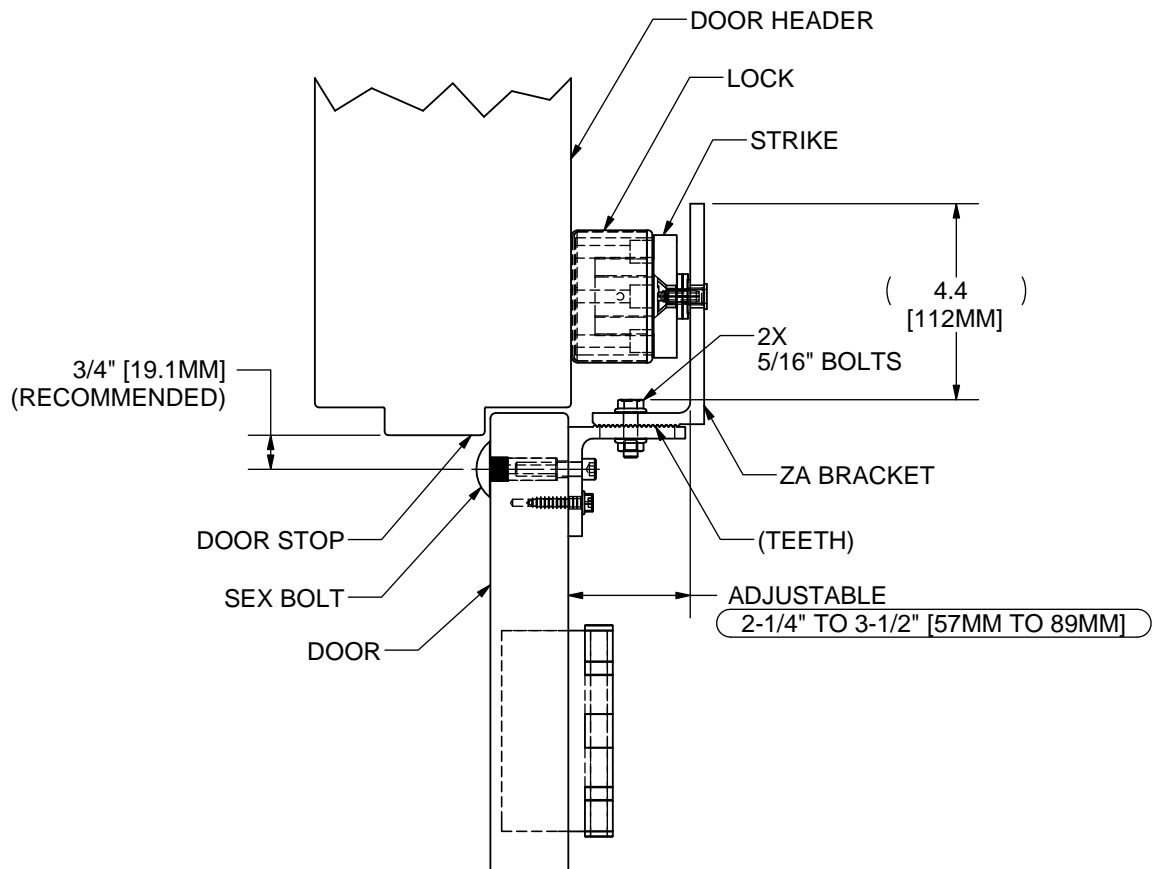
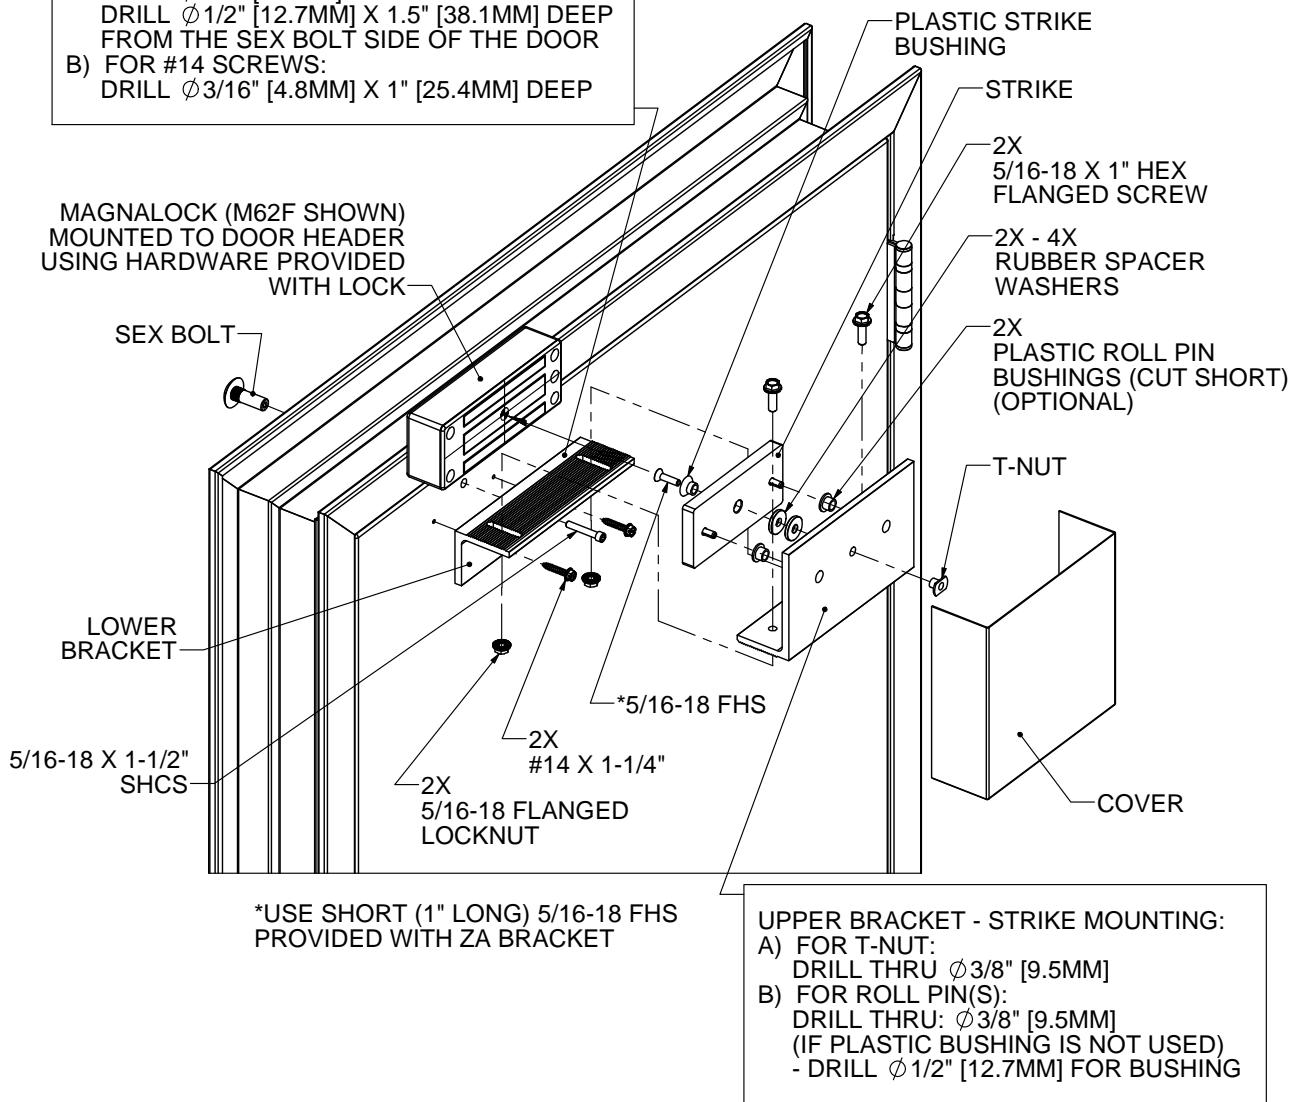

Figure 1
Figure 2
- a. Using the hardware, product installation manual and template provided with the lock, mount the lock to the header at a structurally sound location above the door as shown in Figures 1 and 2.
- b. Loosen the two (2) ZA bracket assembly bolts enough to disengage the teeth and allow the depth adjustment of the bracket.
- f. After the depth of the bracket has been properly adjusted, tighten the screws of the ZA bracket to secure, then mark and drill the three (3) mounting holes in the door as shown in Figure 2.
- h. As necessary, loosen the two (2) ZA bracket assembly bolts and readjust the upper bracket toward or away from the door to gain optimum contact between the strike and the face of the lock when the door is closed.
- a. Position the assembled ZA bracket on the door so that the lower bracket mounting hole surface rests fully on the door face. Referring to Figure 1, select a position that takes into account how the lock will be positioned above the door.
- b. Using the lower bracket as a template mark and drill the three (3) mounting holes as indicated in Figure 2.
- g. Install the strike to the upper bracket as instructed in Section 3 and shown in Figures 1 and 2.
- a. After determining the strike center hole location, use the template showing the strike (furnished with the lock) and Figure 2, mark and drill the holes in the upper bracket.
- c. Ensure that at least one (1) roll pin is pressed into the back of the strike plate.
- d. Using the hardware provided, install the strike, using two (2) rubber washers minimum. The two washer minimum is recommended because it will allow the strike to correctly meet the magnet face in most cases.